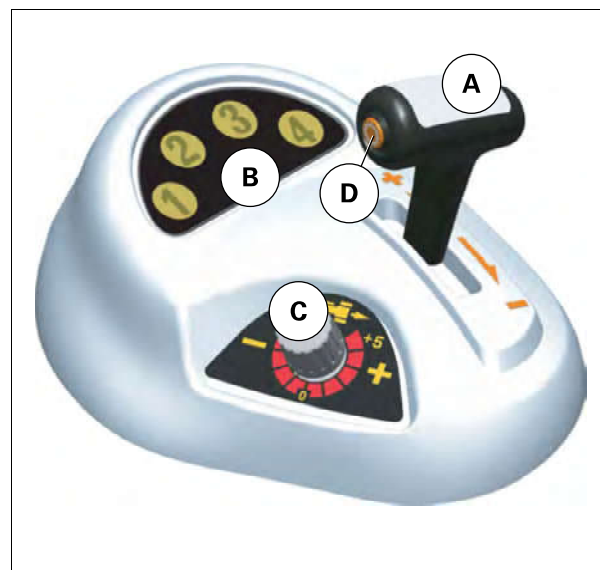

Fig. 1.
- or by lifting lever (E) until display (B) fig. 1 appears.